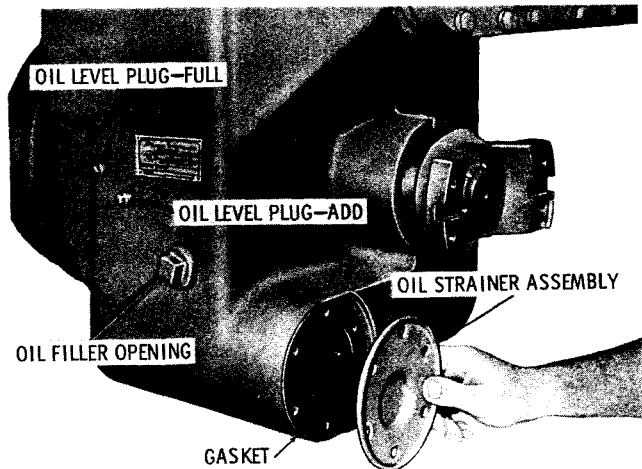

Fig. 7-43. Installing oil strainer and gasket
(1) Install the gasket and oil strainer assembly (fig. 7-43). The strainer is off-center and must be toward the bottom of the transmission. Install six 3/8-16 x 7/8-inch bolts and lockwashers. Tighten the bolts to 26-32 lb ft (36-43 N·m).
(2) Install the FULL and ADD oil level check plugs (fig. 7-43). Install the plug or any other fittings required at the oil filler opening.